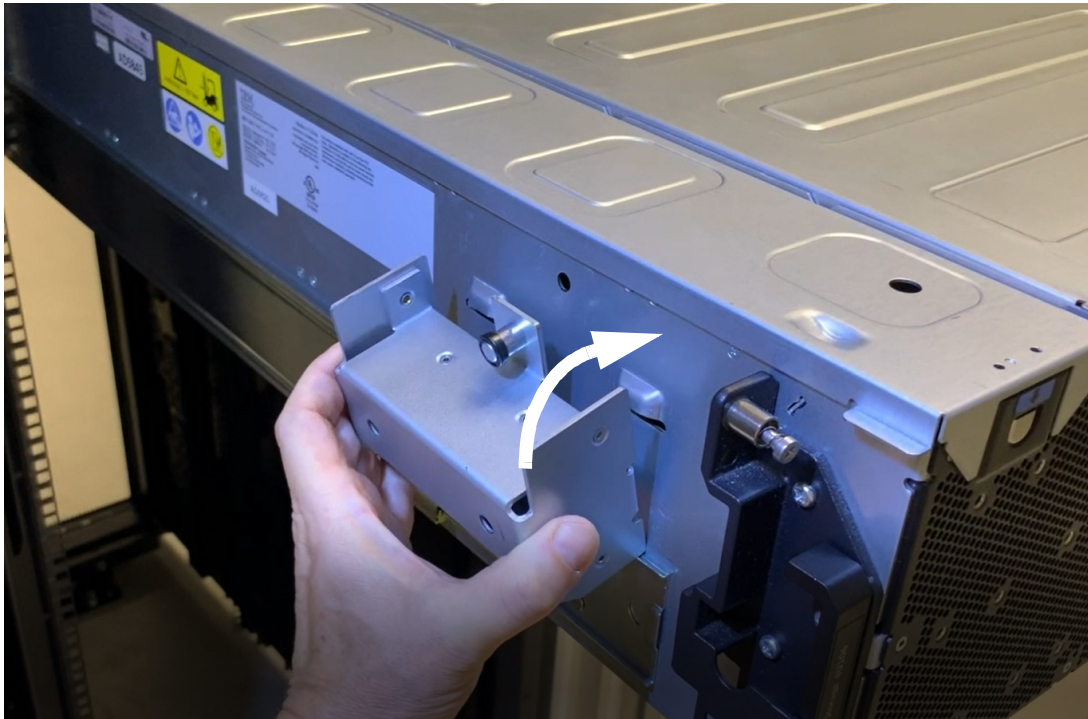

Figure 22 Aligning front left lift handle to the enclosure slots
2. To attach the front left lift handle, align it in below the front left lift handle slots present on the left sidewall of the enclosure as shown in Figure 22.